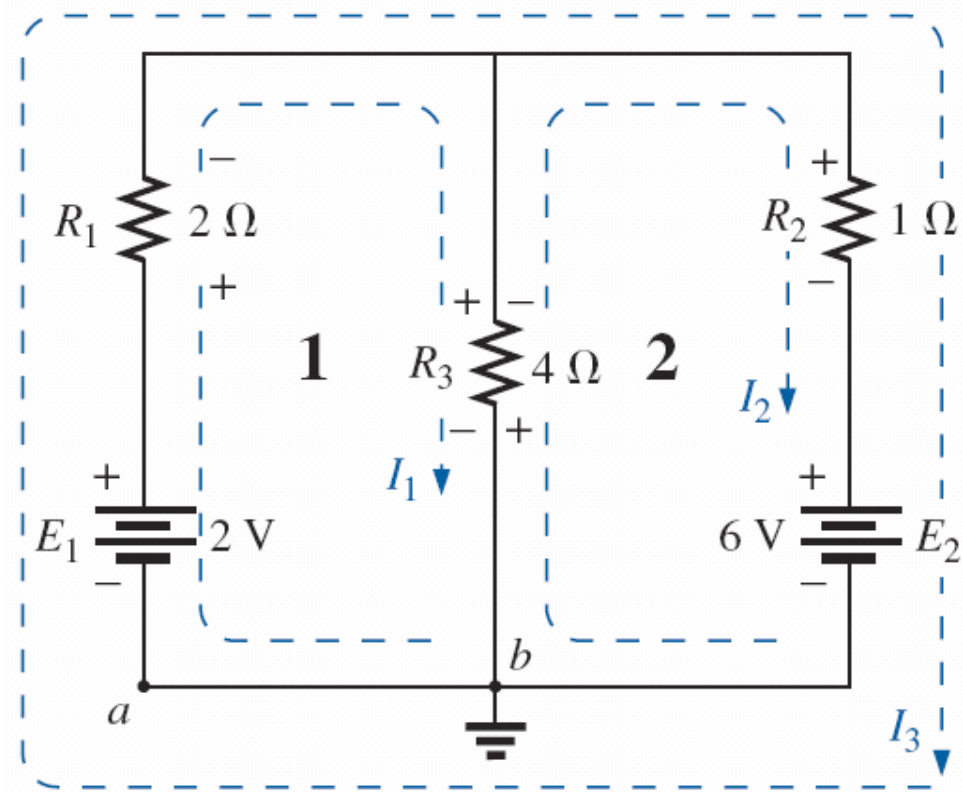

FIG. 8.28 Defining the mesh currents for a “two-window” network.
- 2. Indicate the polarities within each loop for each resistor as determined by the assumed direction of loop current for that loop. Note the requirement that the polarities be placed within each loop. This requires, as shown in Fig. 8.28, that the 4Ω resistor have two sets of polarities across it.***